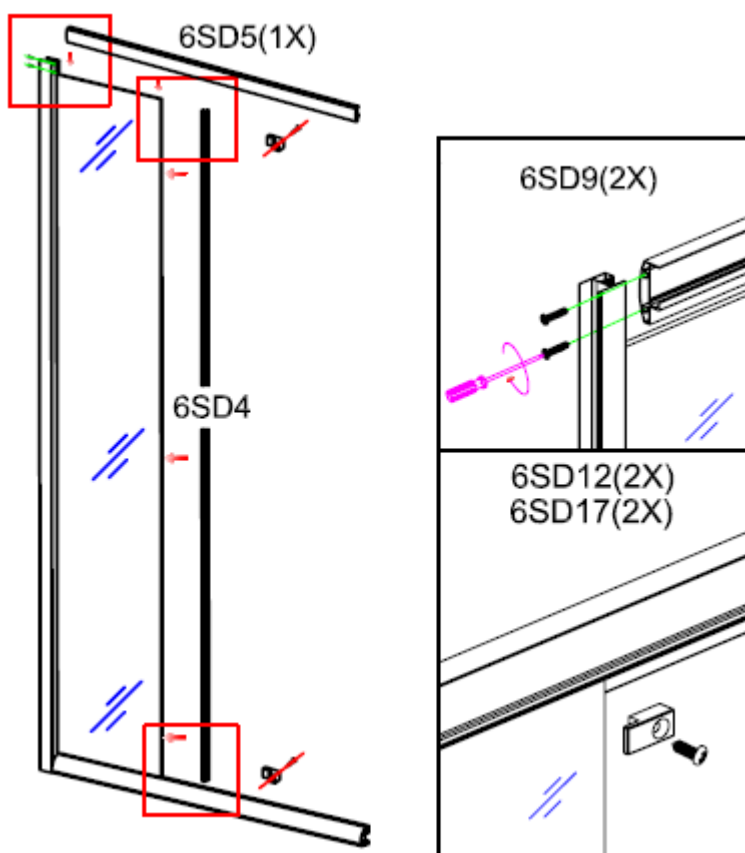

Figure 6
6. Click the strip(6SD4) onto the fixed panel,fasten the top rail profile(6SD5) with the fixed profile.Install the roller stopper(6SD17) with screw(6SD12),as showed in figure 6.